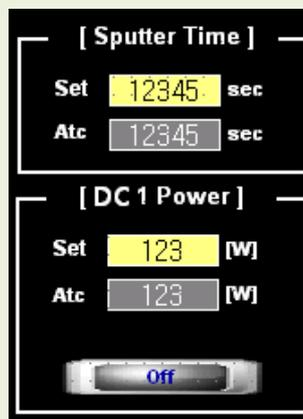

Figure 9. Sputtering power control panel
- ▶ Sputtering is processed by setting process time and power in menu enclosed with red rectangle, as shown in following figure.9